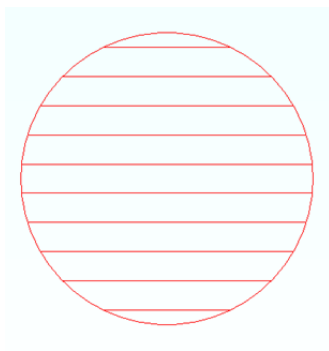

Figure 67: Edge To Edge Fill
- EdgeToEdge - The fill vectors will start and end on opposite edges of the object (Figure 67)